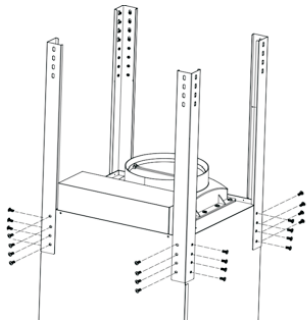

Fig.3
3. Fix 4 bottom mounting bars to the hood body using 32 screws as shown Fig.3. Be sure that the 4 bottom bars must be fixed in same location.